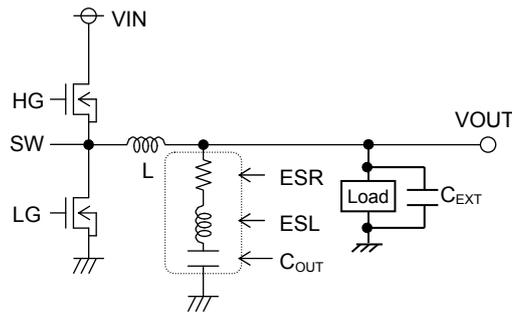

Figure.23 Output Capacitor
Also, give consideration to the conditions in formula (5) below for output capacitance, bearing in mind that output rise time must be established within the fixed soft start time. As output capacitance, bypass capacitor will be also connected to output load side (C_{EXT} , Fig.23). Please set the over current detection value with regards to these capacitance.